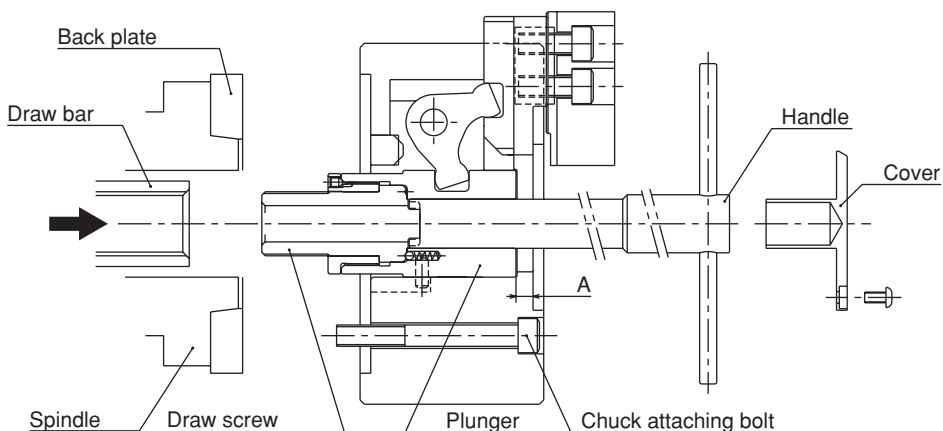

Fig. 17
- The appropriate position of the wedge plunger at the cylinder forward end is the position when the dimension A in Fig.17 becomes as shown in the table below.